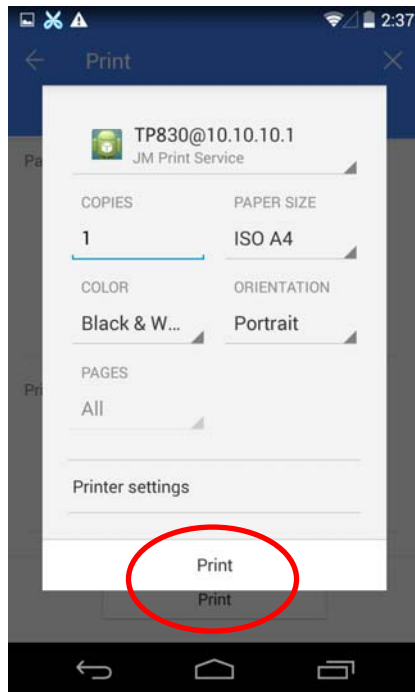

Figure 31
4.7 Make sure the printer and the corresponding printing parameters are correct, click “Print”, as shown in Figure 31.